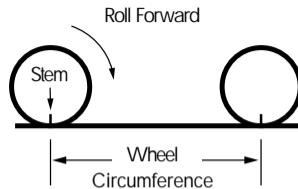

FIGURE 8: ROLL OUT METHOD
3. Roll the wheel one complete revolution until the valve stem is again at the 6:00 position. Read the tape directly under the valve and note the distance in millimeters. (To convert inches to millimeters, multiply inches by 25.4). Use this number to replace the default (default values are 2073 for wheel one, and 2134 for wheel two) when programming your computer. (See figure 8)